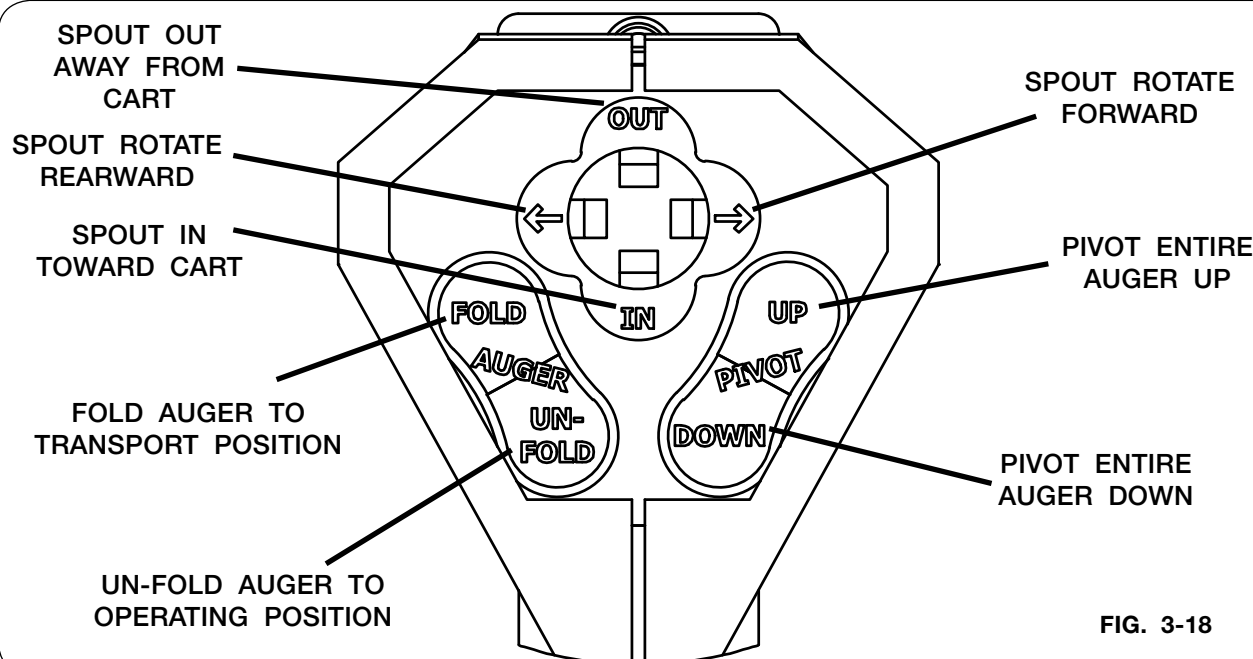

FIG. 3-18
See FIG. 3-18.
4. To pivot spout OUT away from cart, push hat switch toward OUT. Hold the switch until desired position is achieved. See FIG. 3-18.
5. To pivot spout IN toward cart, push hat switch toward IN. Hold the switch until desired position is achieved. See FIG. 3-18.
6. To pivot the entire auger UP, press and hold the auger pivot UP button until the desired height is achieved. See FIG. 3-18.
7. To pivot the entire auger DOWN, press and hold the auger pivot DOWN button until the desired height is achieved. See FIG. 3-18.
8. To pivot the spout FORWARD, push hat switch RIGHT. Hold the switch until desired position is achieved. See FIG. 3-18.
9. To pivot the spout REARWARD, push hat switch LEFT. Hold the switch until desired position is achieved. See FIG. 3-18.